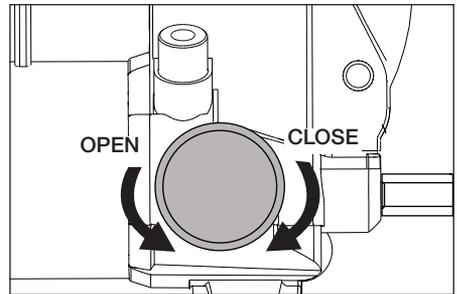

Figure 8, Release Valve (all except P-84)
1. Close the release valve by turning knob clockwise until it stops. See Figure 8.